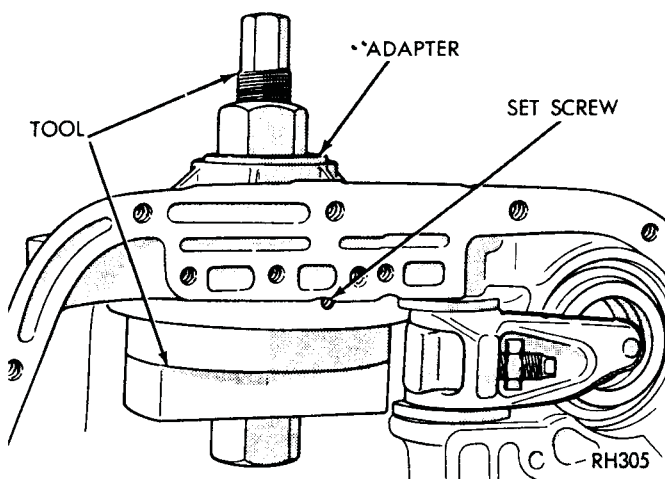

Fig. 41—Install Overrunning Clutch Cam (A-727)
(3) Clean all burrs and chips from cam area in the case.
(4) Place spring retainer on the cam, making sure retainer lugs snap firmly into notches on the cam.
(5) Position cam in the case with cam serrations aligned with those in the case. Tap cam evenly into the case as far as possible with a soft-faced hammer.
(6) Install Tool C-3863A and Adapter SP-5124 as shown in Figure 41, tighten nut on tool to seat cam into the case. Make sure cam is firmly bottomed, then install cam retaining set screw. Stake the case around set screw to prevent it coming loose.